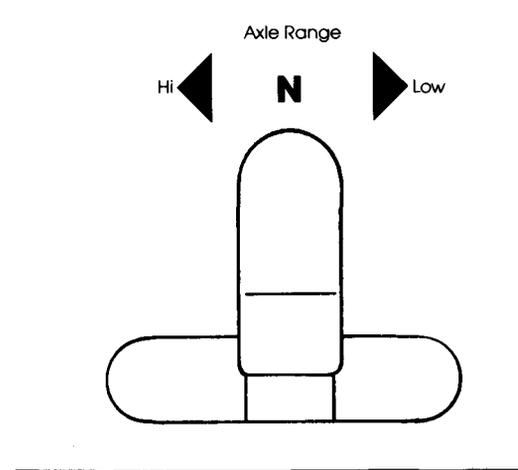

FIG. 75A
- E. Make certain that axle range control lever is in the "HI" position (Fig. 75A).